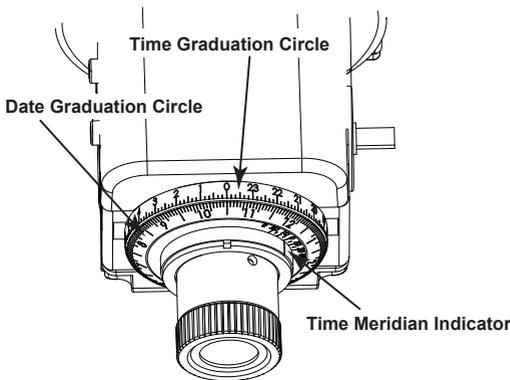

Fig 28
2. Then rotate the **Date Graduation Circle** to align Oct 31 to the 0 of the **Time Graduation Circle** and turn the **Eyepiece/Mounting Platform** to align the **Time Meridian Indicator** to the 0 of the **Time Meridian Circle** (Fig 28). This is the date and time when the orientation of Polaris is directly below the north pole ( 6 o'clock ).